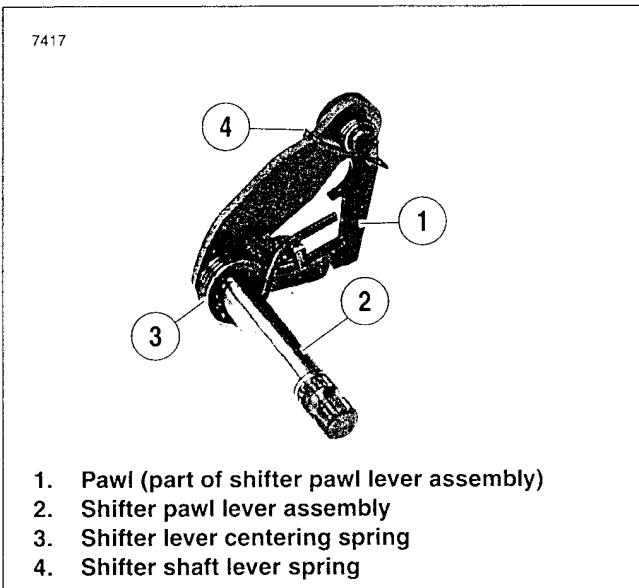

Figure 7-42. Shifter Pawl Lever Assembly
2. See Figure 7-42. Slide shifter lever centering spring (3) over shaft of shifter pawl lever assembly (2). Align opening on spring with tab on lever.
3. Place shifter shaft lever spring (4) on shifter pawl lever assembly.